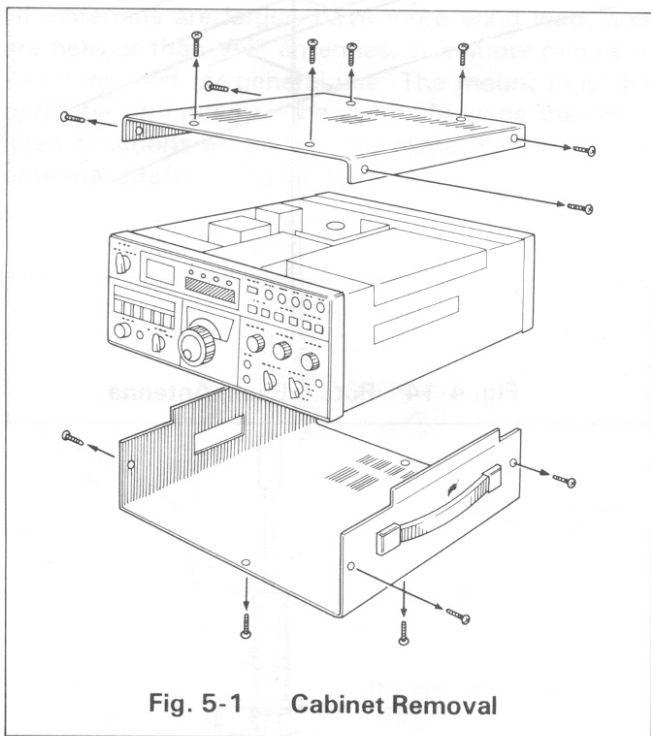

Fig. 5-1 Cabinet Removal
REMOVING THE CABINET (See Fig. 5-1)
Figure 5-1 illustrates cabinet removal. Remove the eight top-cover and five bottom-cover screws and lift away the panels.
- * Remove the bottom case by unscrewing nine screws, and place the unit bottom up as shown in Fig. 5-1.